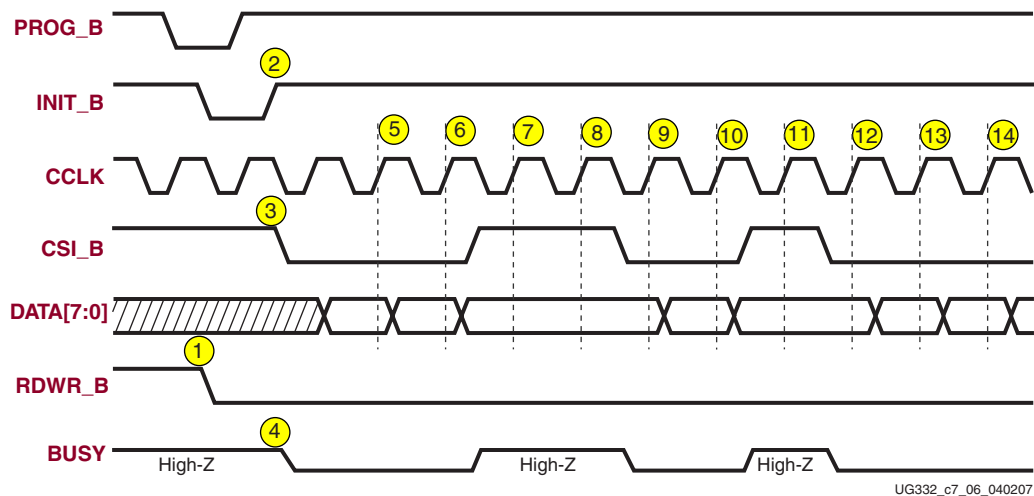

Figure 7-6: SelectMAP Non-Continuous Data Loading with Controlled **CSI_B**
1. Deassert the **CSI_B** signal with a free-running **CCLK**, shown in Figure 7-6 and described in “Deasserting **CSI_B**,” page 187.
The following numbered items correspond to the markers provided in Figure 7-6.